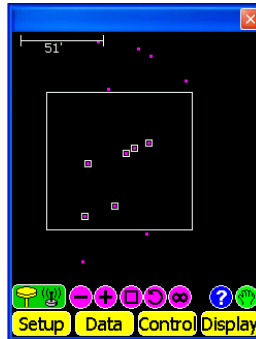

Figure 2-32. Point Selection
1. Press the **selection window** button on the toolbar and draw a square around the desired points and linework on the main screen (Figure 2-32).